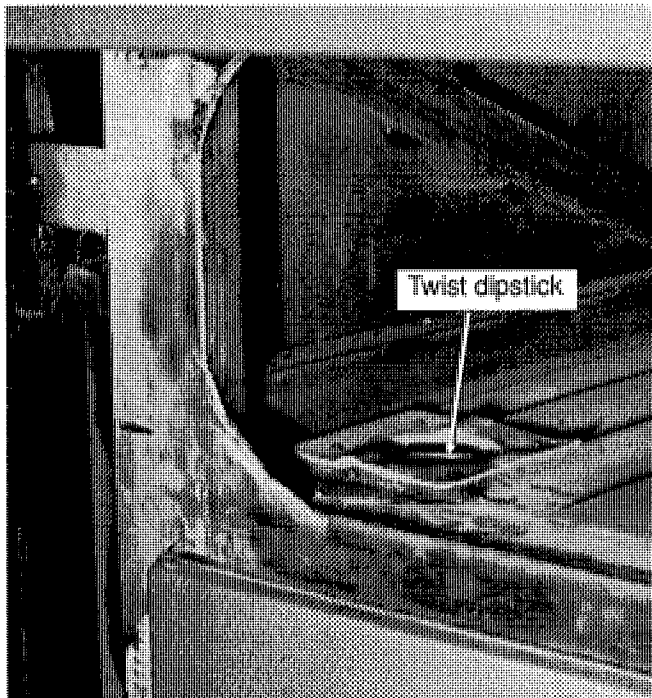

FIG. 3 - Hydraulic oil tank
2. Remove the twist dipstick located in the L.H. side corner and wipe with a clean rag (see fig. 3).